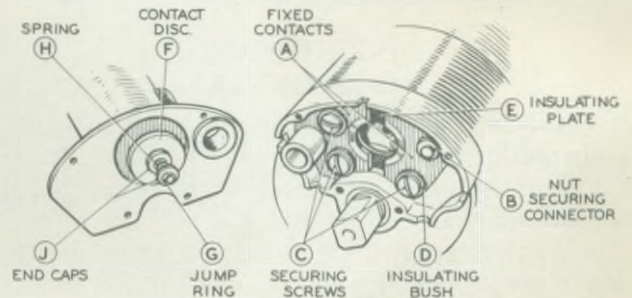

Fig. 7. Starter switch removed
bushes (D). Fit the replacement contacts in position, taking care to place the insulating bushes (D) over the securing bolts before screwing them home (see Fig. 7).